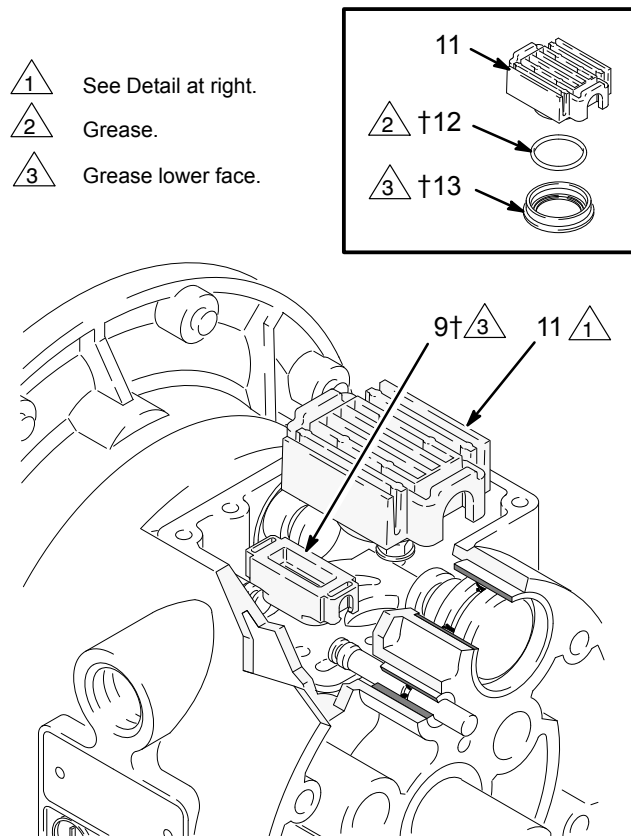

Fig. 9
3. Move the valve carriage (11) to the center position and pull it out of the cavity. Remove the valve block (13) and o-ring (12) from the carriage. Using a needle-nose pliers, pull the pilot block (9) straight up and out of the cavity. See Fig. 9.
7. Install the pilot block (9†) so its tabs snap into the grooves on the ends of the push pins (26). See Fig. 9.
8. Grease the o-ring (12†) and install it in the valve block (13). Push the block onto the valve carriage (11). Grease the lower face of the valve block. See Fig. 9.
9. Align the valve carriage (11) with the actuator pistons (30) and install so its tabs slip into the grooves on the narrow end of the pistons. See Fig. 9.